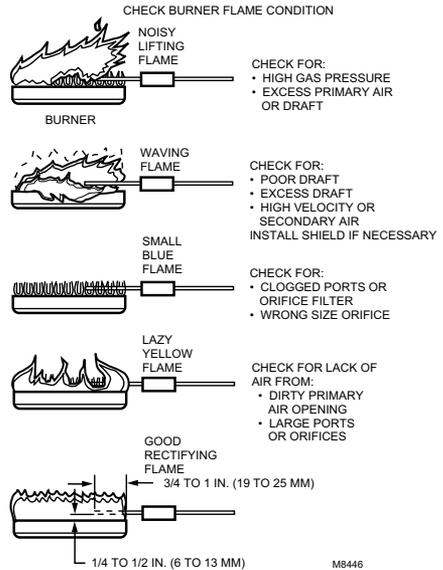

Fig. 6. Check burner flame condition.
- e. Check the burner flame condition. The igniter-sensor or sensor must be constantly immersed in flame. Check the burner flame condition as shown in Fig. 6. Do not relocate the hot surface igniter or flame rod.
- a. Make sure the burner flame is capable of providing a good rectification signal. See Fig. 6.
- b. Make sure about 3/4 to 1 in. of the flame sensor or igniter-sensor is continuously immersed in the flame for the best flame signal. See Fig. 6.